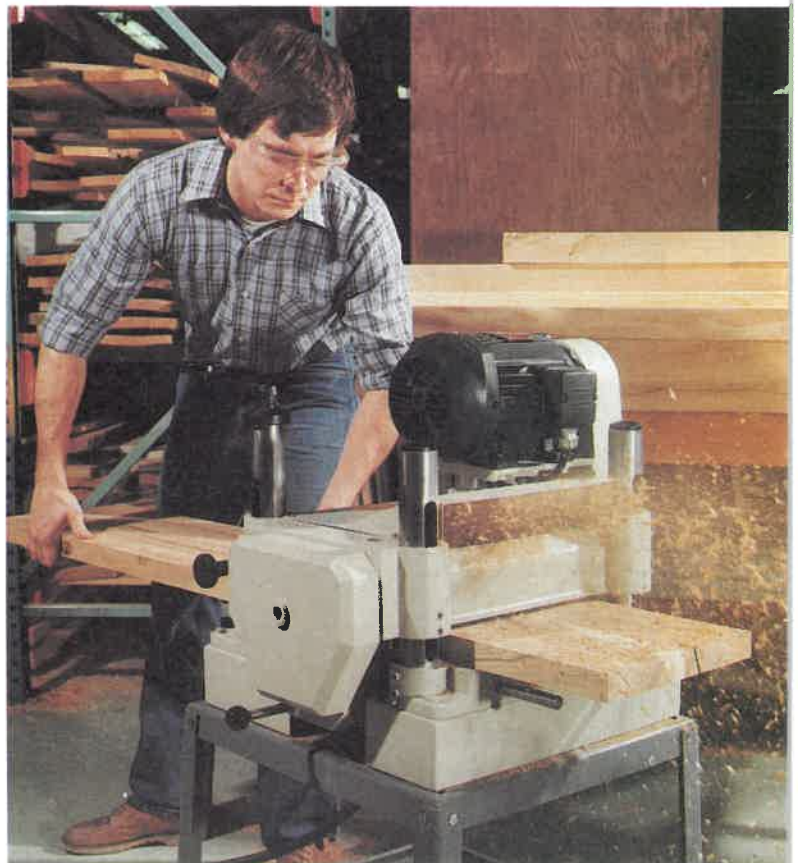

Fig. 3-10. Notice how this operator is standing to one side while operating this stationary planer. (Delta International Machinery Corp.)
6. Stand to one side of the work being fed through the machine, Fig. 3-10.